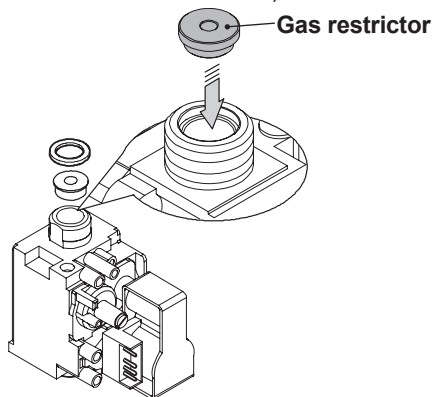

Fig. 9.2
- Carry out gas conversion by correctly replacing the gas restrictor (Fig. 9.2), referring to the "Technical Data" section (page 24 **Advance Plus 16S ERP**, page 27 **Advance Plus 25S ERP** and page 30 **Advance Plus 30S ERP**).